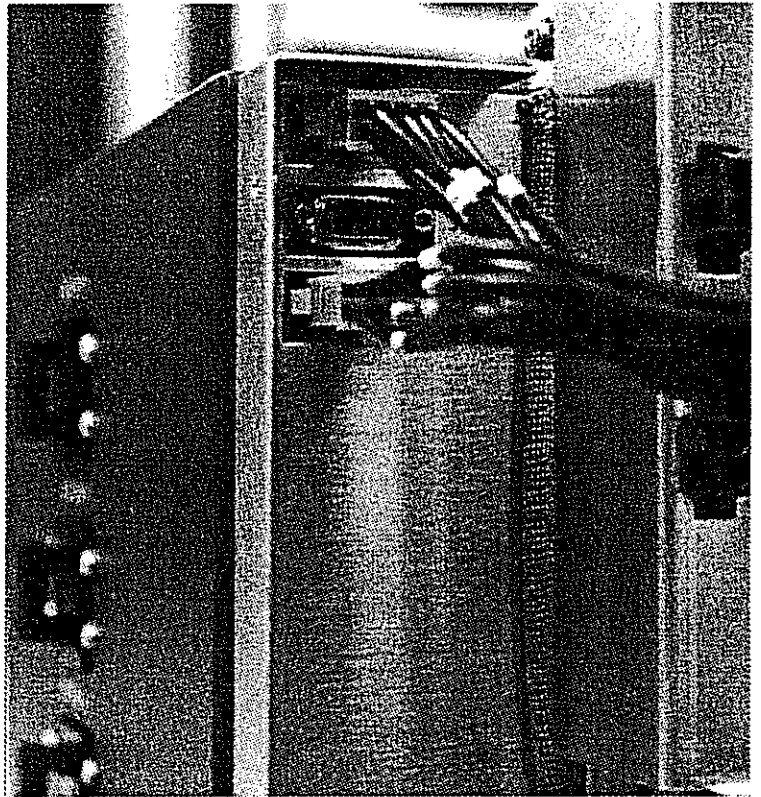

Figure 7-27. Incoming Power Module Connectors and Data Cable
5. Unplug the J2, J3, and J4 connectors from the incoming data cable module. Refer to Figure 7-27. Connector J3 is attached with two screws.
11. Reconnect the J2, J3, and J4 connectors to the incoming power module. Refer to Figure 7-27.